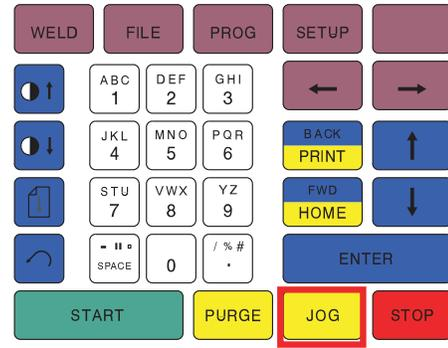
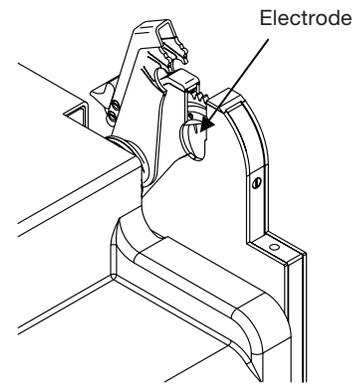

Figure 14 JOG on the Operator Panel
Figure 15 Jogging the Rotor until the Electrode is Accessible
- With the weld head in the open position, press JOG on the operator panel (see Figure 14) until the tungsten electrode is in the position shown in Figure 15.